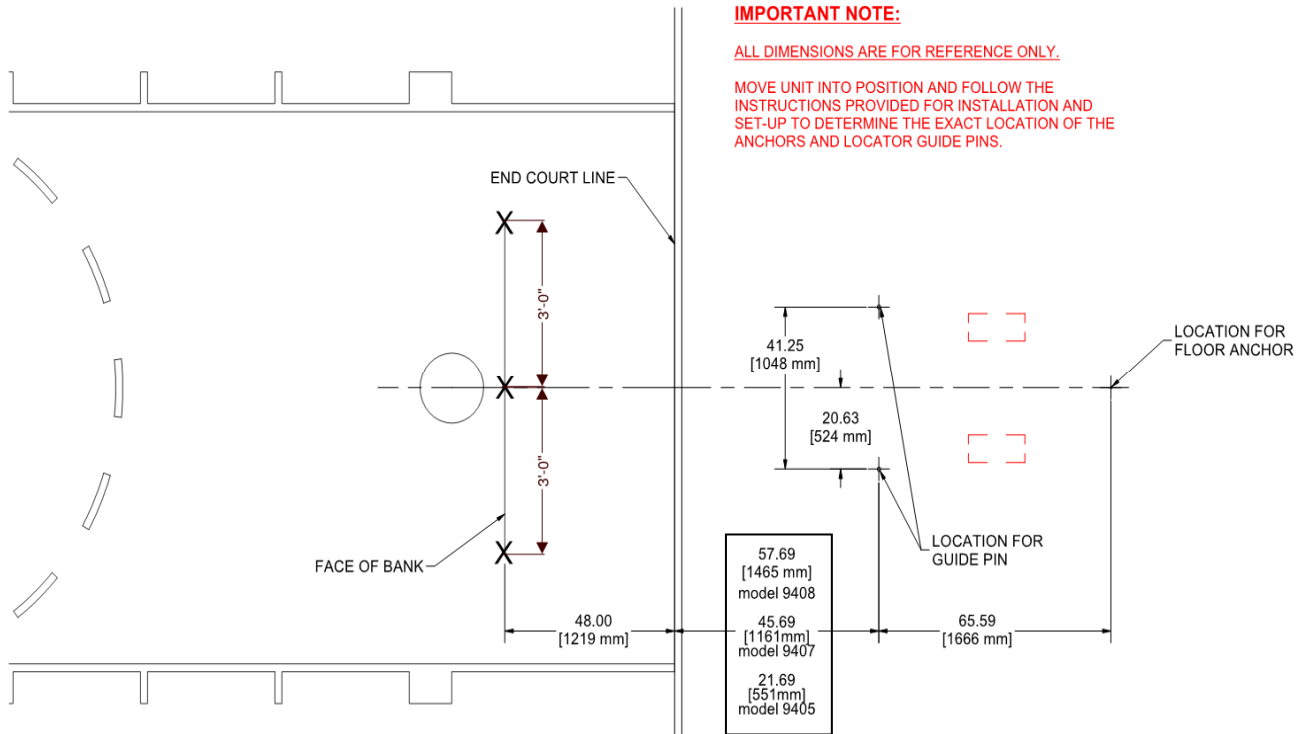

Figure 5
- Using masking tape and pencil, Mark the location of the center of the court 48” from the inside of the court baseline (refer to figure 5). From this center mark, establish a mark 3’-0” to the left and another mark 3’-0” to the right. These marks will be used to align the face of bank to the court.
- Push the unit to the playing location on the court. Find the dimensions for the guide pin location in figure 5 to help set unit in place behind the baseline.